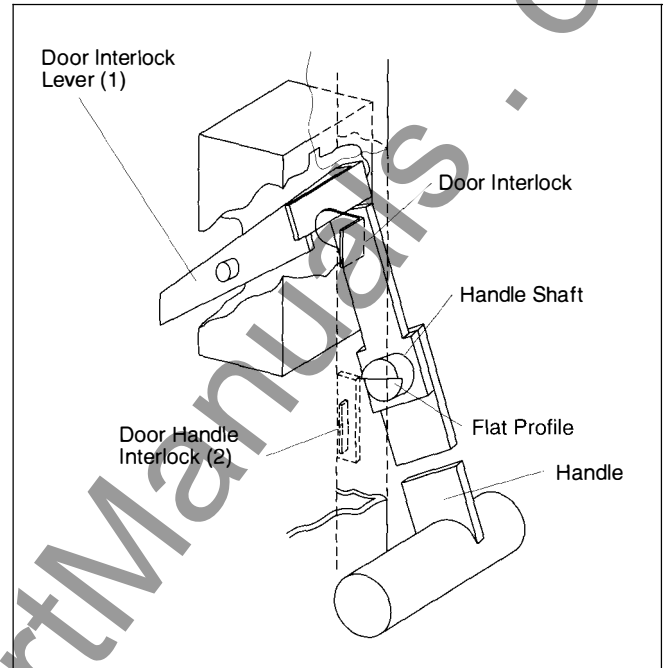

Figure 7. Door Interlock and Door-Handle Interlock.
The racking handle is interlocked with the door such that the handle cannot be moved to the ON position while the door is open. Refer to **Figure 7**.
The door-handle interlock (item 2 in **Figure 7**) prohibits closing or opening of the medium voltage compartment door except when the handle is in the OFF position. The flat profile on the end of the handle shaft will not allow the door-handle interlock to pass in or out unless the handle is in the OFF position. Refer to **Figure 7**.